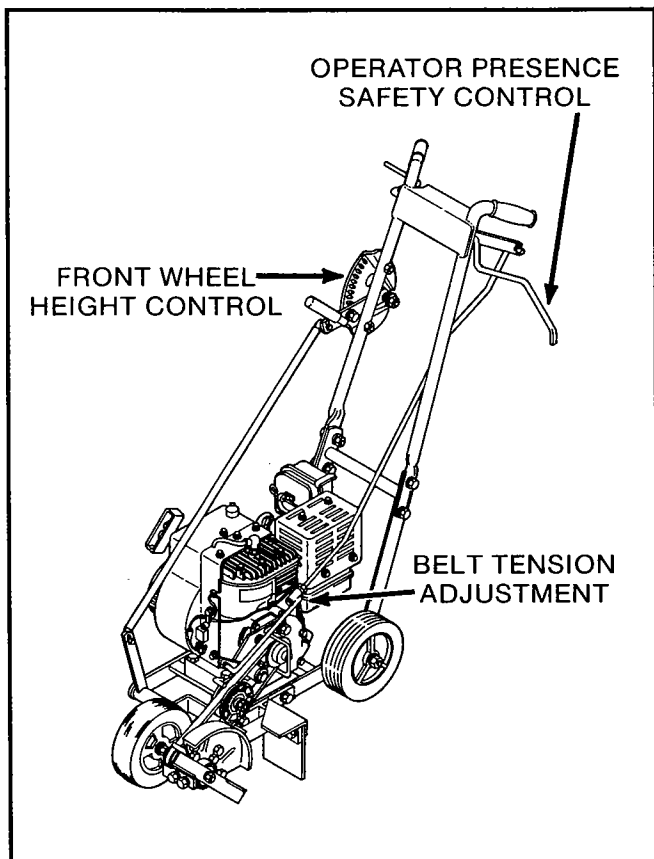

Figure 5
Figure 5 is a general view of the edger.
2. Before starting the engine, be sure the blade has a free arc of travel and blade is fully raised. Damage to blade can result if blade is not in the highest position (Figures 5 and 6).